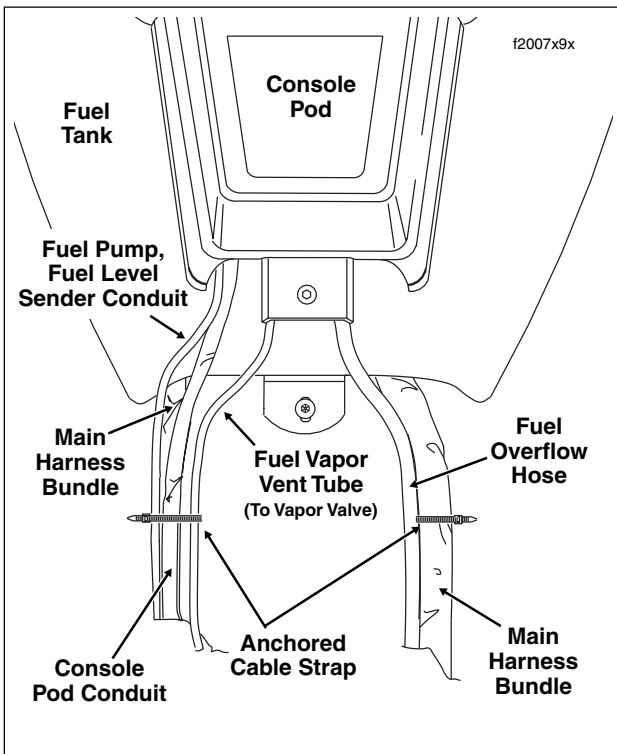

Figure 8-140. Console Pod Cable/Hose Routing (Top View)
2. Remove filler cap. Place console over filler neck onto canopy. Route cables from beneath console as shown in Figure 8-140. Be sure that hoses and wires are not pinched by the console during installation. Reinstall filler cap.
5. Snap anchor of **new** cable strap into hole on left side of frame backbone. Tighten cable strap capturing main harness, audio harness, console pod conduit, fuel level sender/fuel pump conduit, and fuel vapor vent tube. See Figure 8-140. Install **new** cable strap to secure console pod conduit and audio harness to left frame tube at front of saddlebag rail. Cut any excess cable strap material.